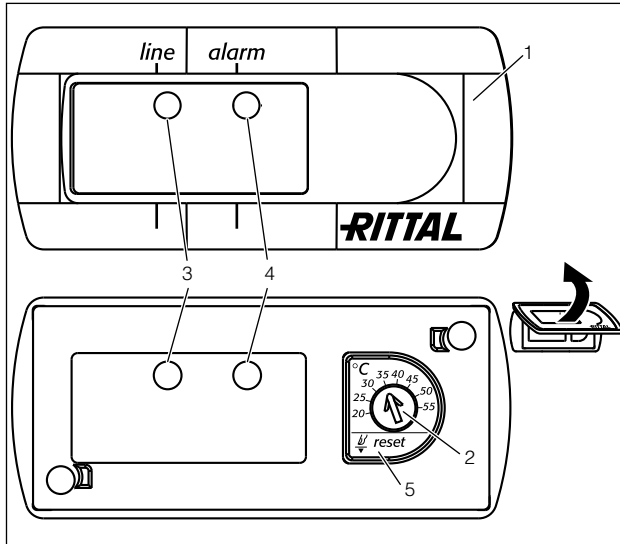

Fig. 34: Basic controller
The Basic controller monitors and controls the cooling unit. It indicates the operating and error statuses via the green and red LEDs (Fig. 34, nos. 3 and 4):
- Hold the rubberised potentiometer display (see page 22, Fig. 34, item 5) down while you switch the mains power back on, and keep the button (5) held down for a further 5 seconds (for access to the potentiometer, see also 6.1.1).
- Set the required temperature on the temperature setting device (page 22, Fig. 34).
- Press the reset button (Fig. 34, no. 5) for at least 3 sec.